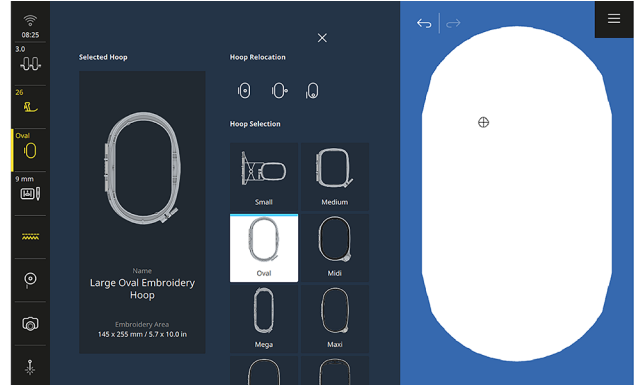

Fig. 2
2. Scroll through the options with your stylus or finger and select Large Oval Hoop (Fig. 2).